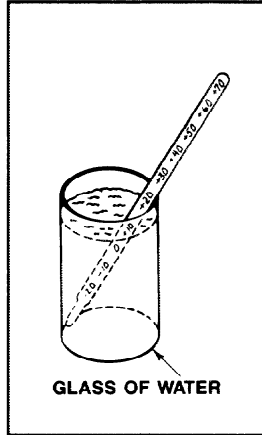

FIGURE 39
**REFRIGERATOR:** Place the thermometer in a glass of water and place the glass in the middle of the refrigerator section. See Figure 39. Be sure air can flow around it. Wait 3 to 4 hours, check the temperature and adjust the control one number at a time as needed to within the  $38^{\circ}$  to  $40^{\circ}\text{F}$  range. Wait 3 to 4 hours and check the temperature again.